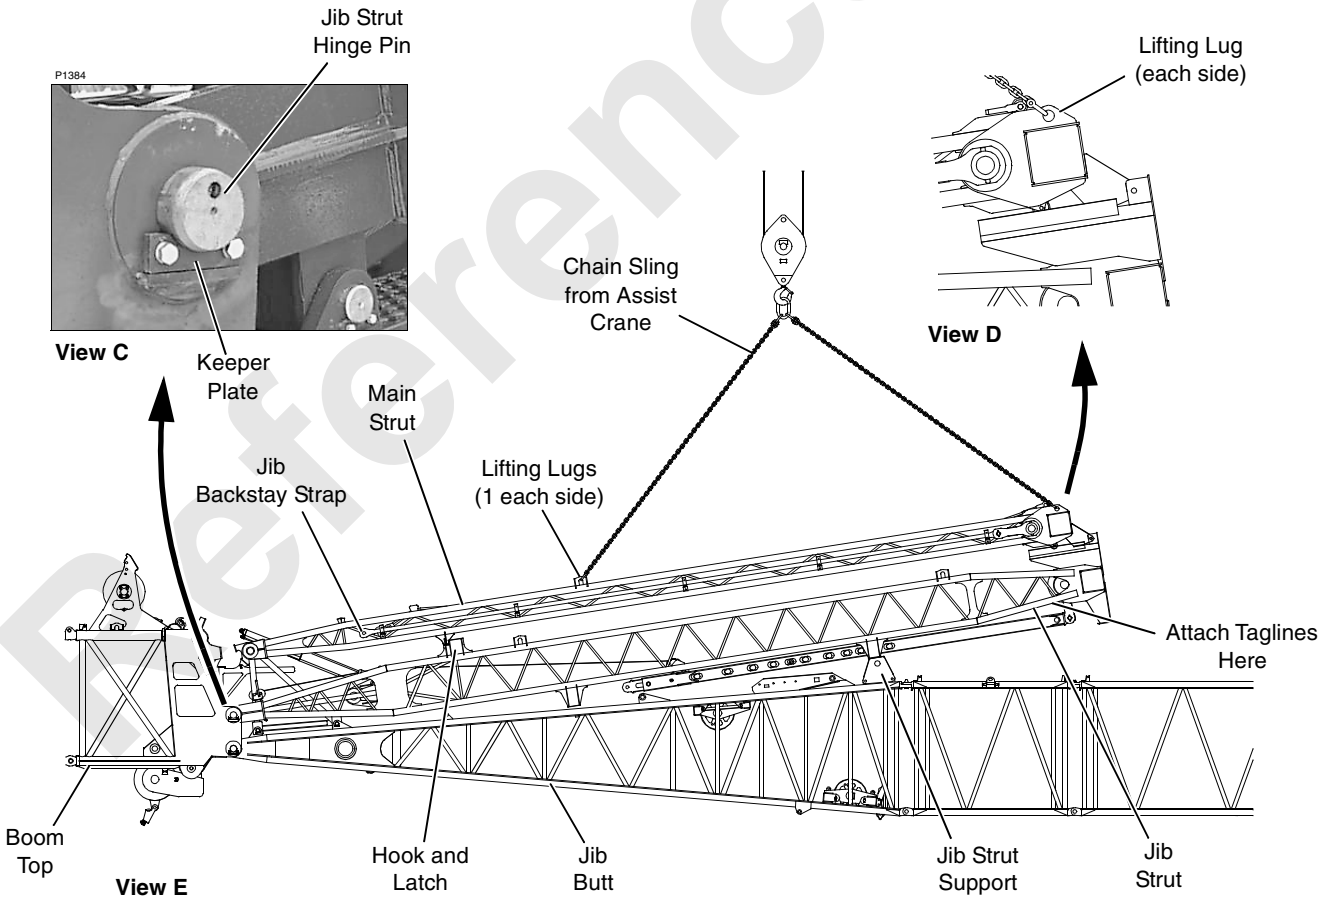

FIGURE 4-5
See Figure 4-5, View A for following procedure.
See Figure 4-5, View B for following procedure.
See Figure 4-5 for following procedure.
1. Remove strap storage pins from shipping position and store (Figure 4-5, View B).